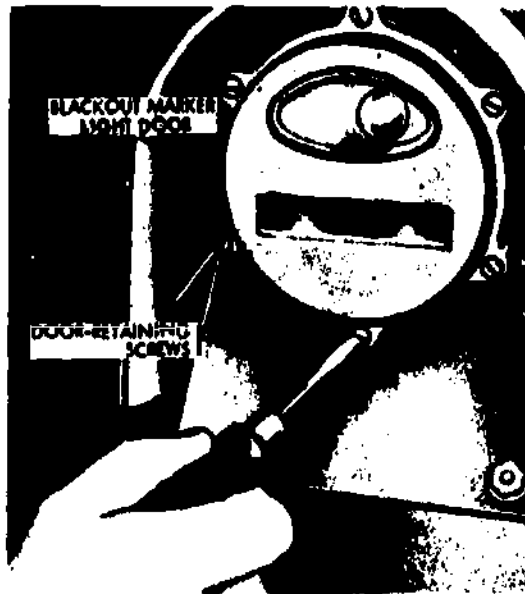

Fig 2-137. Removing the door retaining screws.
Step 1. Remove the door retaining screws (normally six) holding the door/cover to the light body (fig 2-137).